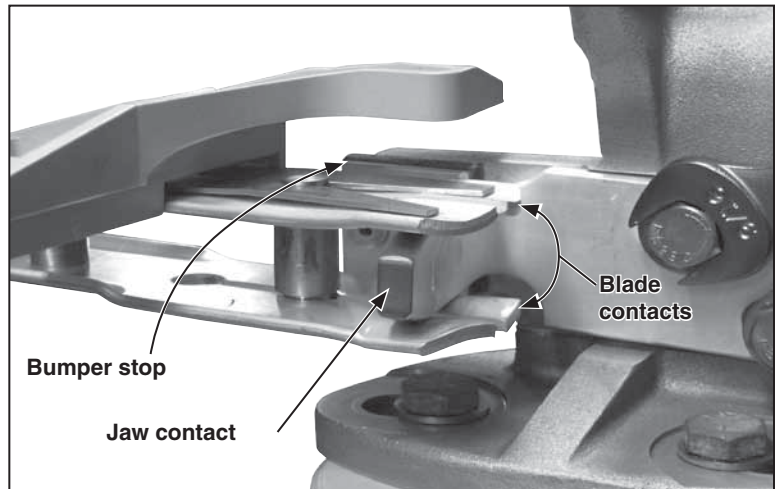

Figure 23. Make sure the jaw contact is fully-centered between the blade contacts and that the blade contacts are against the bumper stop.
- With the operating handle as far as it will go in the closing direction, all main contacts of the interrupter switch are in the fully-closed position. See Figure 23.